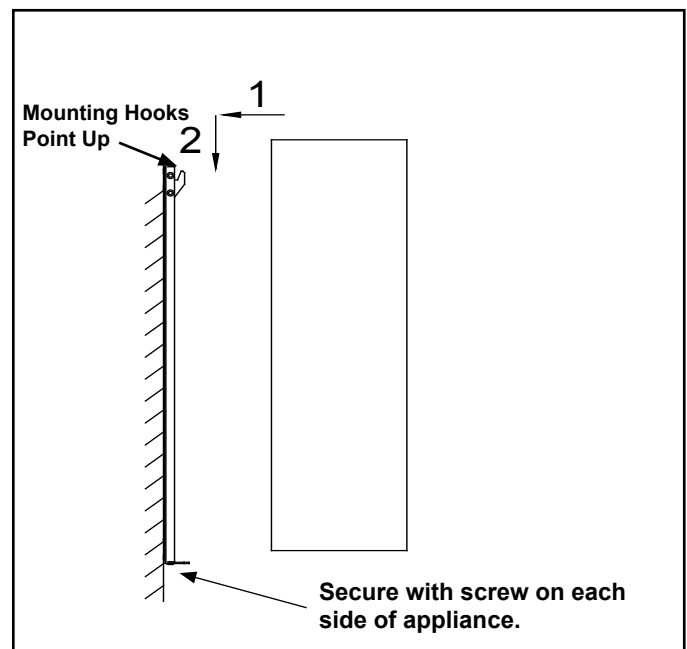

Figure 4.9 Attaching Appliance to Bracket
- Hang the appliance and pull down to ensure the hooks are fully engaged. See Figure 4.9.
- Secure the appliance to the bracket with two M5X10 screws. See Figure 4.9.